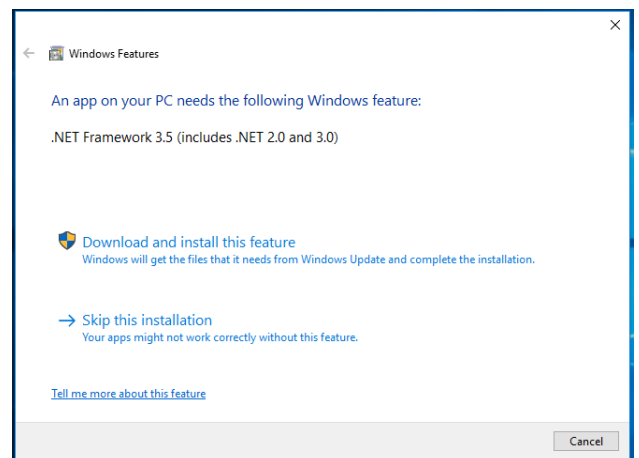

Figure 11. Restarting the PC
- When the Eval+ Dependencies installer reaches the .Net Framework, the window shown in Figure 11 will appear.
3. If the window in Figure 11 does not appear; v3.5 may already be installed. To check if the software is already installed open **Control Panel > Programs > Programs and Features** and select **Turn Windows features on or off**. Check that the .Net Framework v3.5 is enabled.